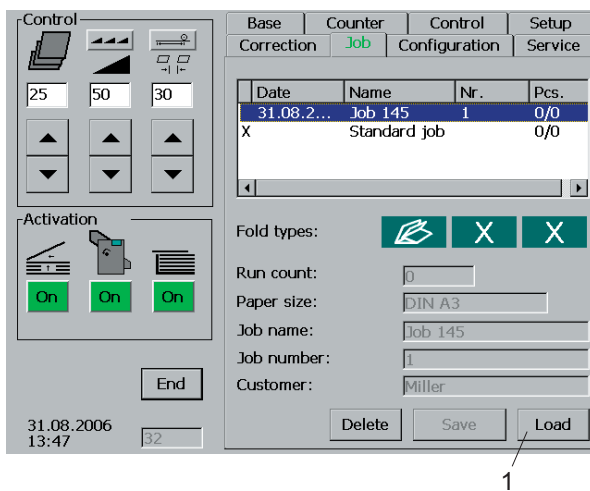

Fig. 28 Loading a job
3. Touch the *Load* key (Fig. 28/1).